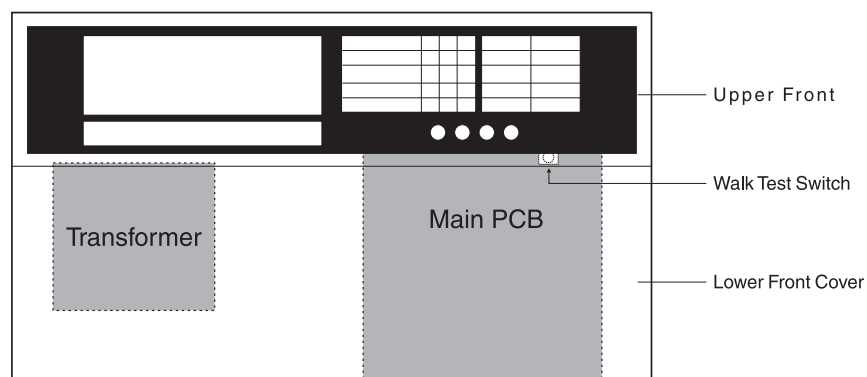

Figure 17 Locating the Walk Test Switch
1. Remove the lower front cover and locate the 'Walk Test Switch' behind the control panel PCB, as shown in Figure 17 Locating the Walk Test Switch.